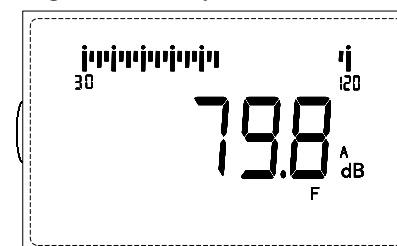

Fig. 5
1) Press the **WEIGHTING** key to make the display shows 'C', and the value displayed on the LCD is the measured value of 'C' sound level. Press the weighting key to make the display shows 'Lin', and the value displayed on the LCD is the measured value of 'linear sound level'. See Fig. 5.
3) There are 3 kinds of time weightings, Fast (F) and Slow (S). Generally Fast 'F' is used. If the reading changes greatly, Slow 'S' can be used. As shown in Fig. 5.